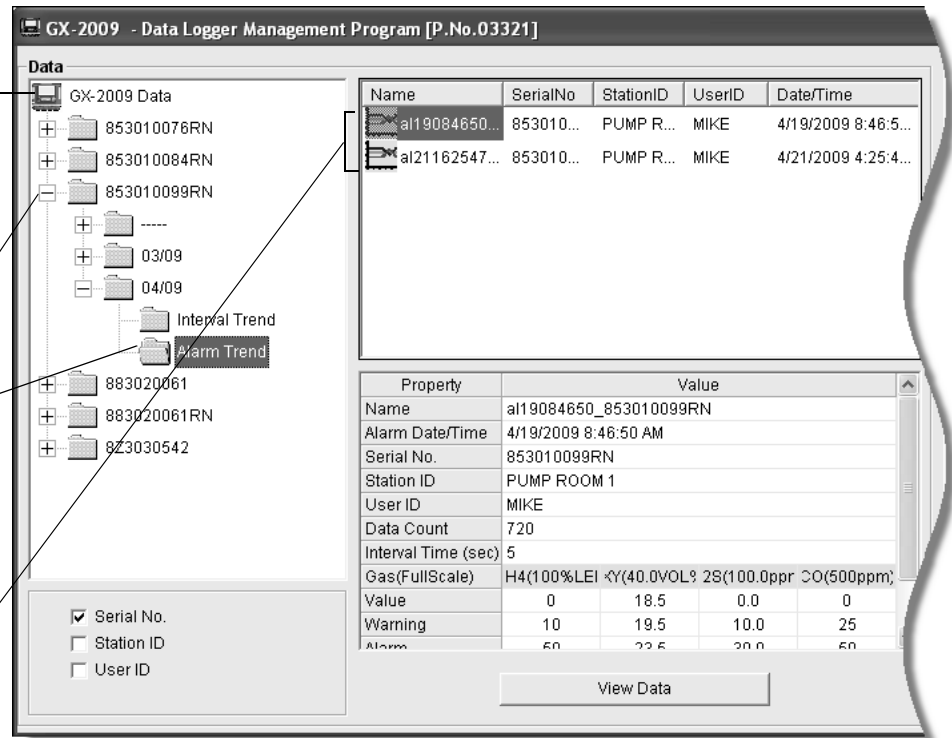

Figure 32: Data Window - Selecting Alarm Trend Data Files
- If you click the **Summary** button, the data window will split into two frames one above the other with the data table in the lower frame and the summary information shown in the upper frame. The summary information is the same as the information shown in the lower right frame in Figure 32.
- If you click the **Summary** button, the data window will split into two frames one above the other with the graph in the lower frame and the summary information shown in the upper frame. The summary information is the same as the information shown in the lower right frame in Figure 32. To return to the one frame format, click **Summary** again.